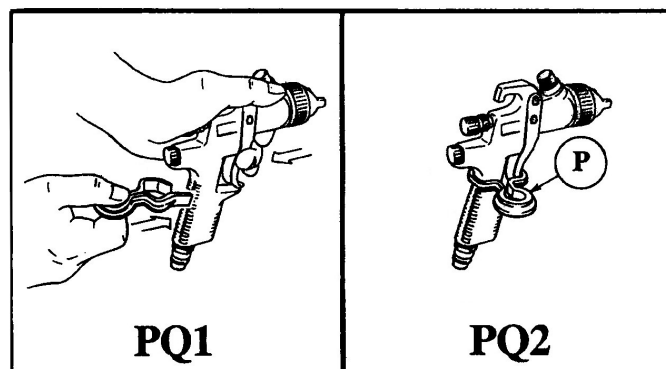

Figura PQ1-PQ2
Remove the nozzle and the gun cover. Empty the residual content to an external container and dismantle the cup. Open with an hand the internal door (pos.5C fig.1) and put the cup upside down over the grid **G** over the nozzles **T**, put the cover of the cup with the inside downwards on support **H**, also put mixing bars and other accessories over the grid **G**. Pull the gun trigger using hook **P** (fig.PQ1-PQ2) and place spray guns over **Y** support. Insert **Z** nozzle inside the paint channel of the spray gun. Complete this operation, close the door (pos.5C fig.1) using the hook (pos.34 fig.1) and activate the pump membrane, setting the timer on maximum (pos. 14 fig. 1). At the end of the wash cycle the pump will stop automatically.